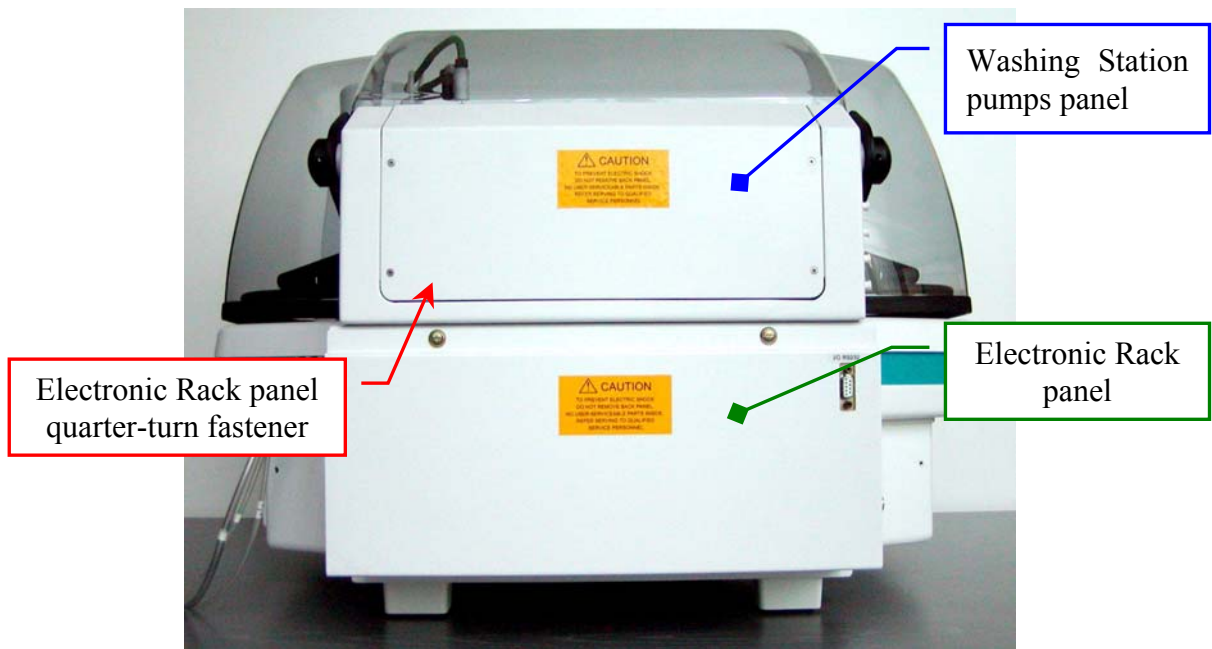

Fig. 53 - Instrument (posterior view)
18. Open the Electronic Rack panel unscrewing the two quarter-turn fasteners (Fig. 53).
19. Extract the Electronic Rack from its vain (Fig. 53).